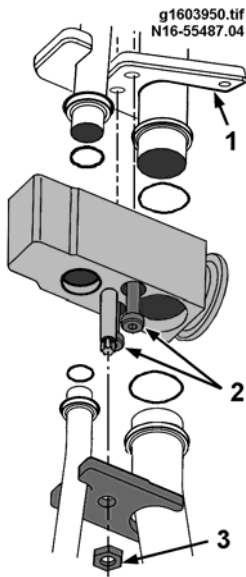

Figure 50 Installation of Rear Thermal Expansion Valve
3. Remove 2 Torx head screws (2, Figure 50) securing TXV to upper lock plate. Remove TXV. Plug all open A/C lines and tape over TXV ports to protect from contamination.
1. From under the vehicle, install new lubricated O-rings onto the evaporator tubes; then install the Thermostatic Expansion Valve (TXV) onto the evaporator tubes. Secure the TXV to the upper locking plate with the 2 Torx head screws removed earlier. Tighten to 4,000 to 4300 N.mm (35.4 to 38.0 lbf-in) Refer to Figure 50.